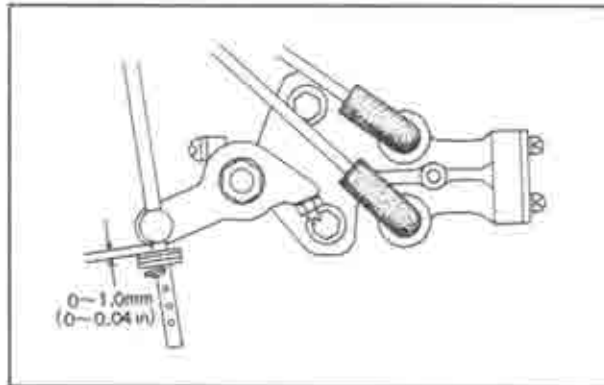

Fig. 2-18 Connecting rod setting.
4. Check the clearance between the pump lever and the washer as shown in Fig. 2-18. The clearance should be 0 ~ 1.0 mm (0 ~ 0.04 in). If necessary, adjust it by using a suitable washer.